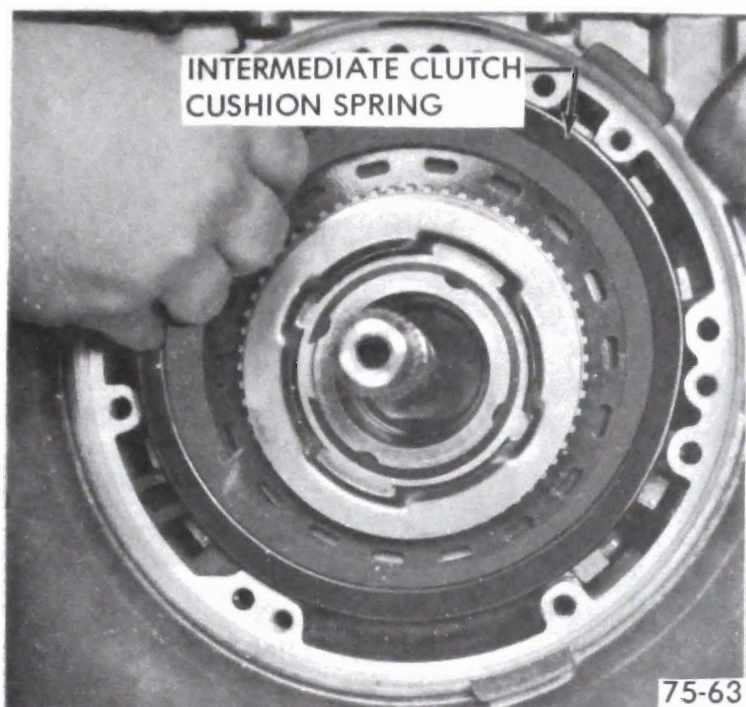

Figure 75-247
3. Install intermediate clutch cushion spring. See Figure 75-247.